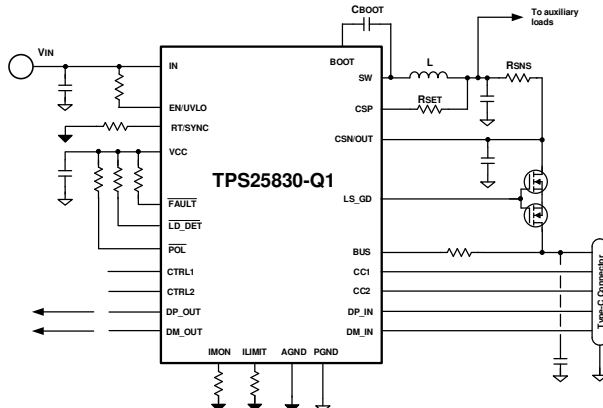
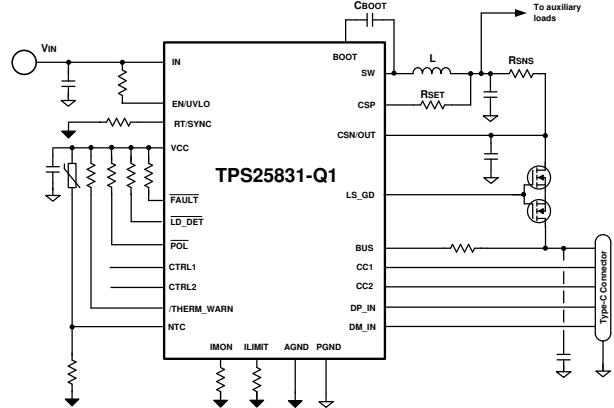

Figure 10-16. TPS25830-Q1 Current Limit with External MOSFET
Figure 10-17. TPS25831-Q1 Current Limit with External MOSFET
- With external MOSFET Figure 10-16, Figure 10-17:
The TPS2583x-Q1 has integrated NFET gate drivers, and can support current limit with external NFET. Refer to Figure 10-16.